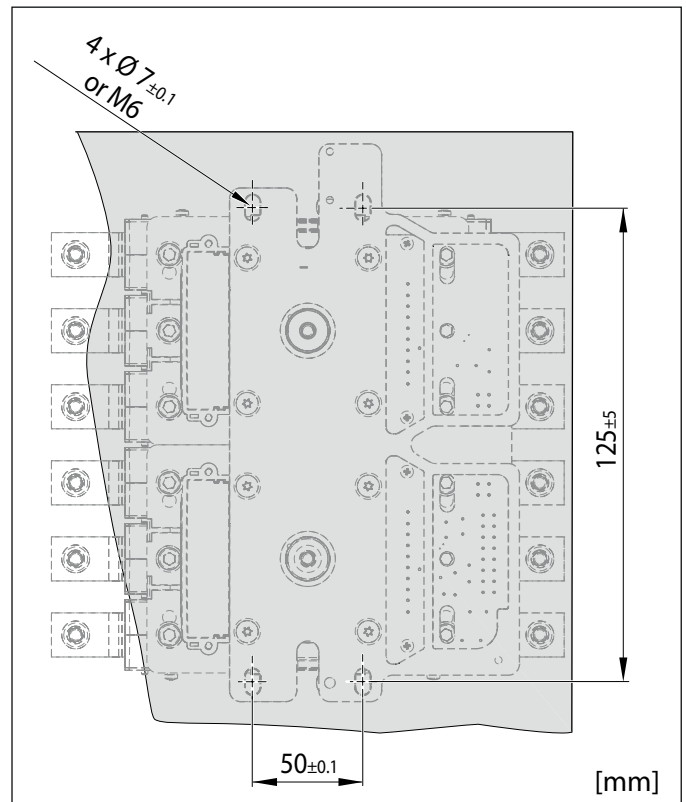
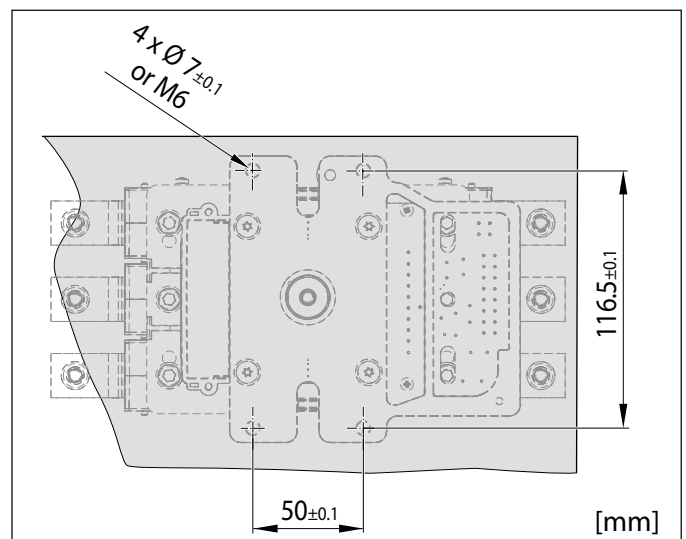

Fig. 13: Dimensions and layout of mounting holes for coil drive wide (dimensions not to scale)
Fig. 14: Dimensions and layout of mounting holes for coil drive small (dimensions not to scale)
- ▶ A suitable mounting plate with 4 mounting holes in accordance with the following dimensional drawings (*Fig. 13 and Fig. 14*) must be provided for fastening of the contactors.